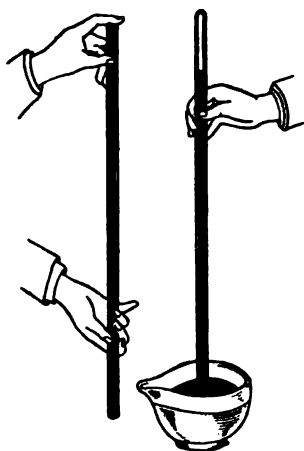

FIG. 31.—Torricelli's experiment.
**53. Torricelli's Experiment (1643).**—Take a glass tube about 3 ft. long, sealed at one end, and fill it with mercury. Close the end with the finger and invert, placing the end closed by the finger under mercury in a dish (Fig. 31). Remove the finger and the mercury sinks until the top of the mercury is about 30 in. above the level of the mercury in the dish. Torricelli concluded that the rise of liquids in exhausted tubes is due to the pressure of the atmosphere acting on the surface of the mercury in the dish.